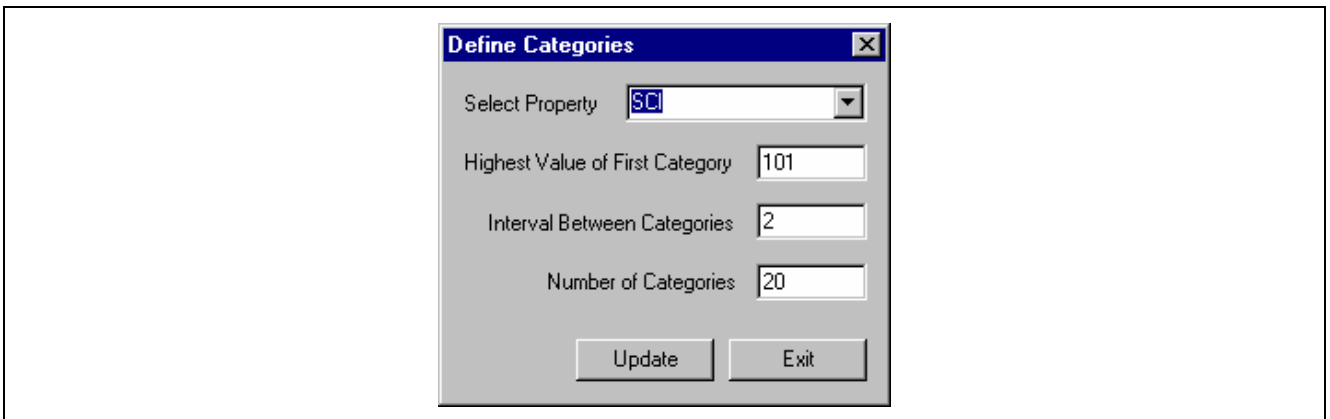

Fig. 6-62 Define Categories Screen III
20.1 Select and highlight SCI. Enter 101 for the Highest Value, 2 for the Interval Between and 20 for the Number of Categories (Fig. 6-62).